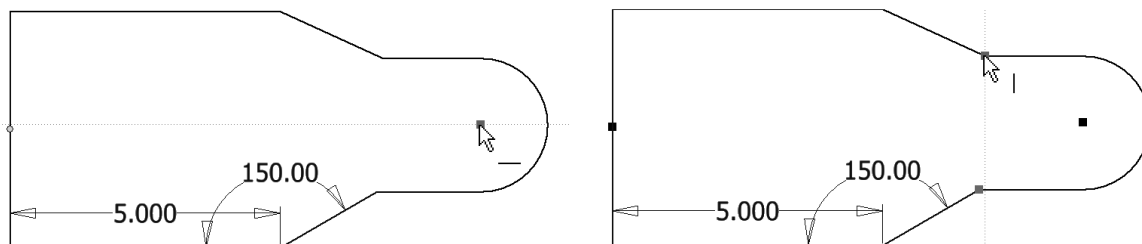

Figure 2.69
- 6 Horizontal Constraint command from the Sketch tab > Constrain panel to add a horizontal constraint between the midpoint of the left vertical line and the center of the arc as shown in Figure 2.69 left.
- 7 Use Vertical Constraint from the Sketch tab > Constrain panel and add a vertical constraint between the endpoints of the angled lines nearest to the right side of the sketch as shown in Figure 2.69 right.